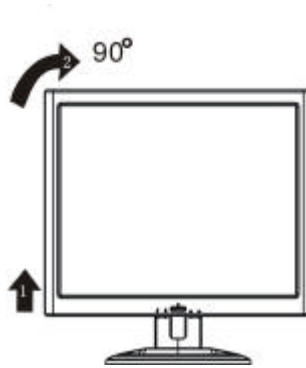

Figure 3
- You can conveniently adjust the height of your monitor by slightly lifting the display. In addition, you can also turn the display by 90° into the vertical position. To do this you must slightly lift the display and turn it clockwise. (See Figure 3)